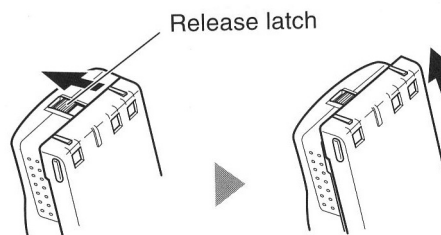

Figure 4.4
3. To remove the battery pack, push up the release latch, then slide the battery pack back (Figure 4.4).